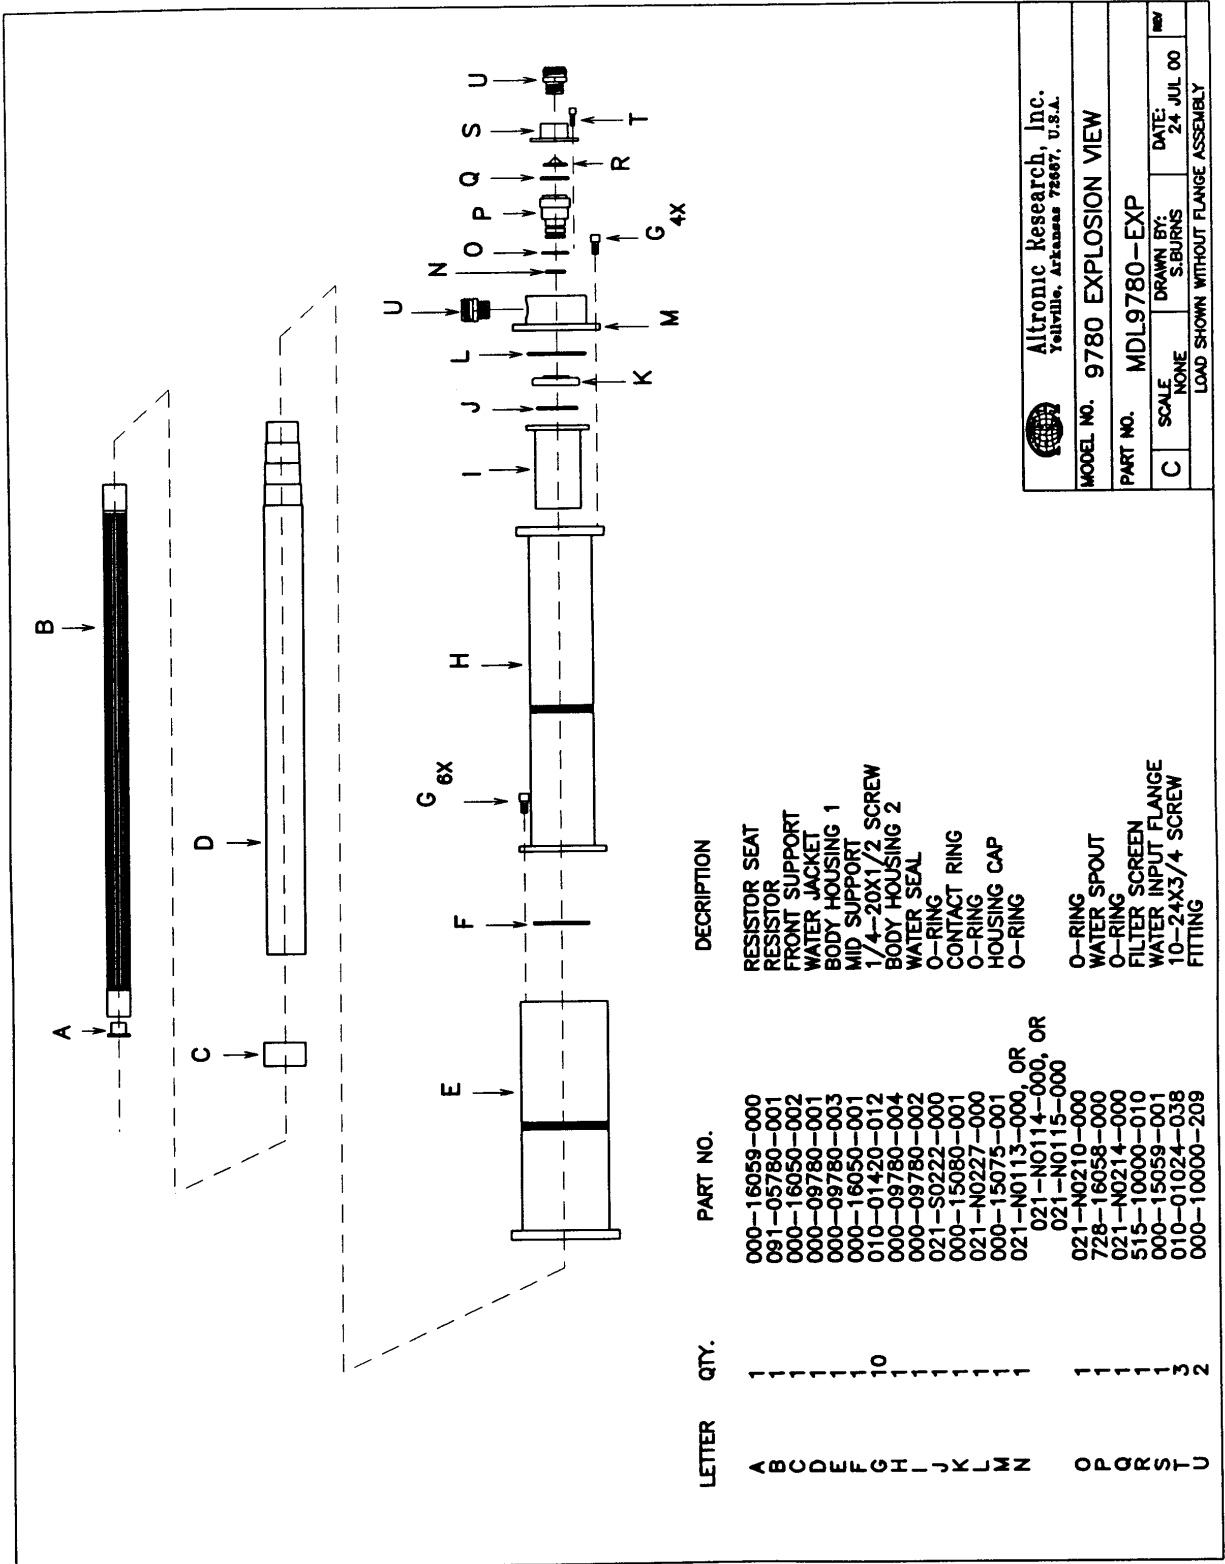
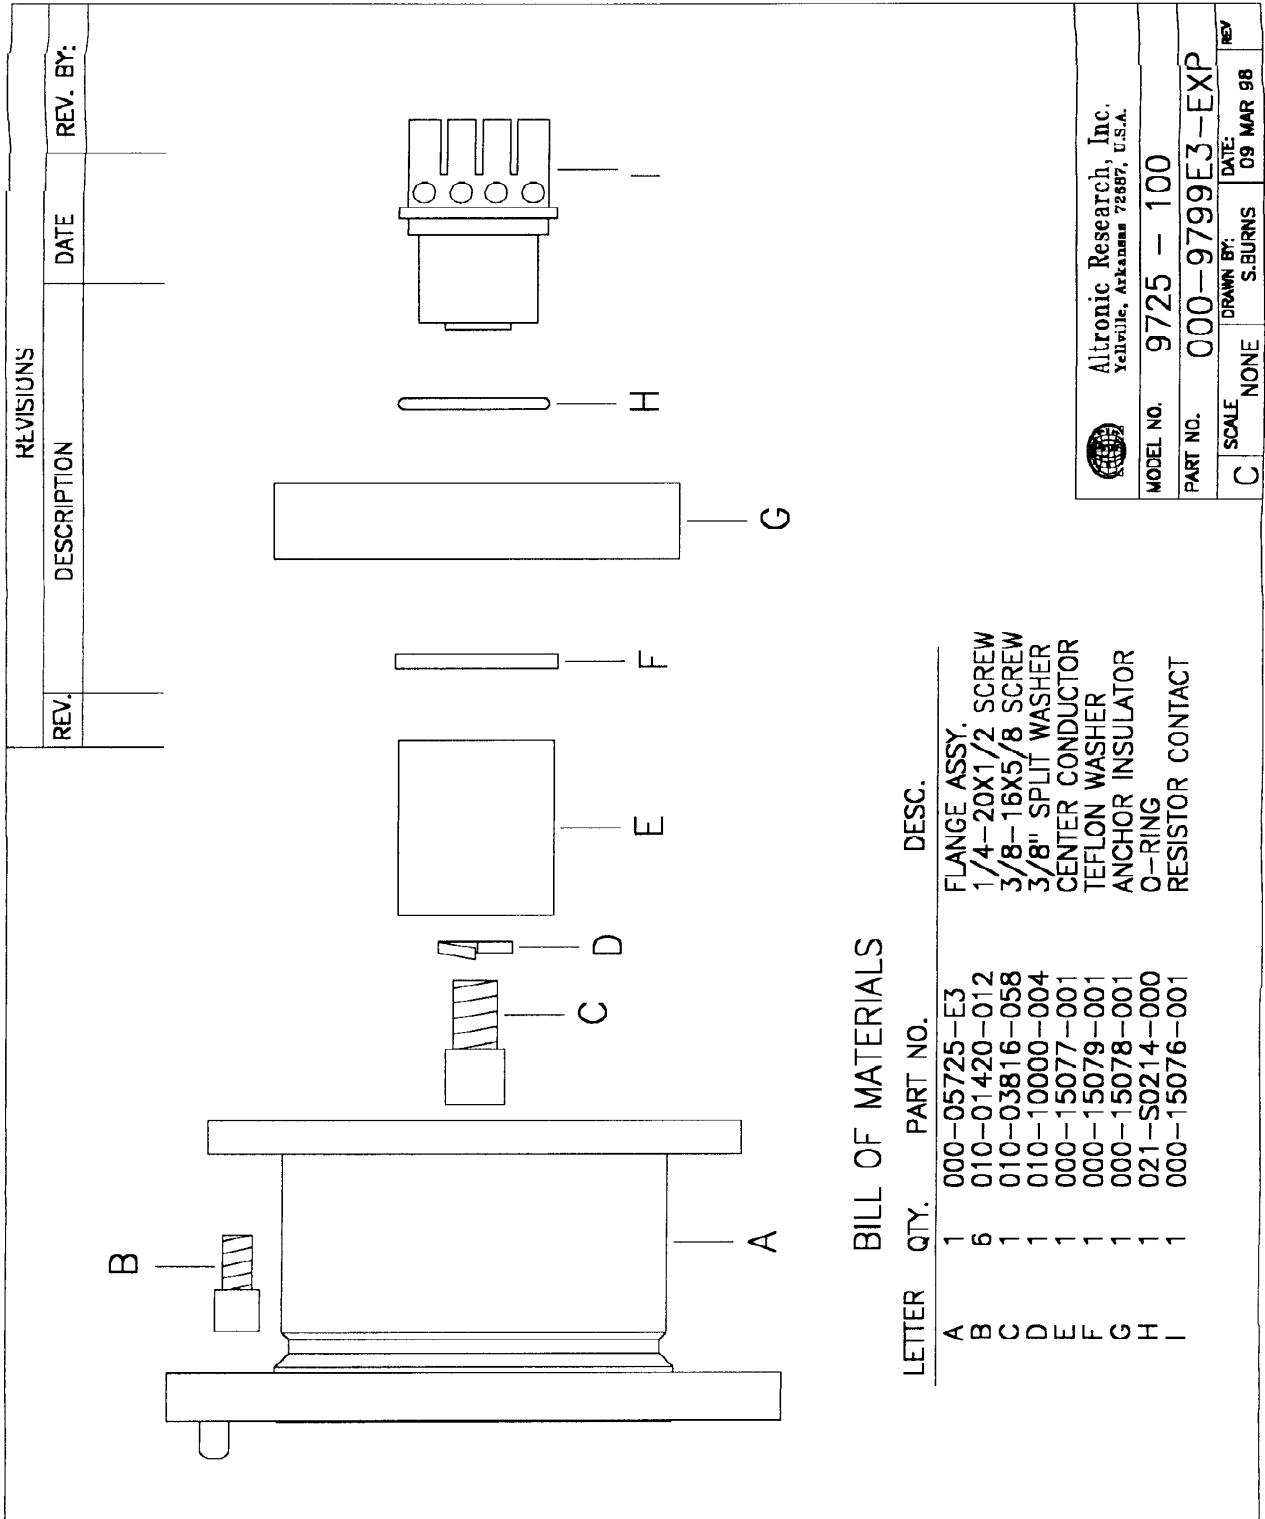

Fig. 14
Fig. 15
4. **Resistor Replacement** - (Refer to Fig. 14) To replace the resistor element, remove the three 10-24x3/4" cap screws (item T). Remove water input assembly (items R, S, and U). Inspect filter screen for damage, replace if eroded or torn. Remove four 1/4-20x1/2 socket screws (item G) that secures the housing cap (item M) to the body housing #2 (item H). Remove housing cap assembly (items K, L, M, N, O, P, Q and U). Inspect all O-rings for distortion or damage. Replace if pinched, cut, burned or no longer round in cross section. Inspect ring contact (item K) for signs of arcing or loss of silver
- 5. Removal of RF Input** - (Refer to Fig. 15) To remove the RF input line adaptor flange, remove six 1/4-20x1/2 socket head screws (item B) that secures the line adaptor flange (item A) to the load body housing (item D, Fig. 14). The RF input assembly consisting of the center conductor, anchor insulator and front resistor contact (items C, D, E, F, G, H and I) will normally remain in the load body. Grasp the center conductor (item E) by hand and attempt to pull the input assembly out of the load body using slight side to side motion while pulling. If strong resistance is encountered, it may be necessary to chill the load to allow the anchor insulator to shrink away from the load housing. This can be done by placing the load in a freezer, or packing the load in ice for 20 to 30 minutes. Once the anchor insulator has shrunk away from the load housing, the RF input assembly should be easily removed. At this point of disassembly, all components of the load can be inspected or replaced as needed. Reassembly should be done in the reverse order of sequence.